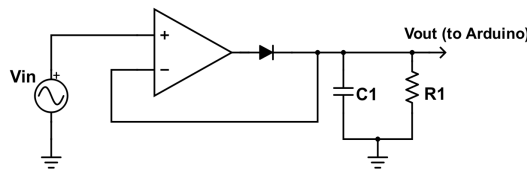

Figure 4: Smoothing Circuit based on diode and RC discharge. The time constant = the smoothing window: $\tau = R_1 C_1$.
4. The **rectified and time-averaged (smoothed) bass signal** will ultimately be used to control servo motor rotation. We've previously implemented a rectifier + RC smoother in our AM radio receiver build. We will modify that circuitry here to prevent sacrificing the $\approx 0.7V$ diode voltage drop (a significant loss/waste in this case). See Figure 4. Notice the diode is now wired in the feedback path of the op-amp, which otherwise looks like a buffer. Show that the input-output relation for this op-amp circuitry is: